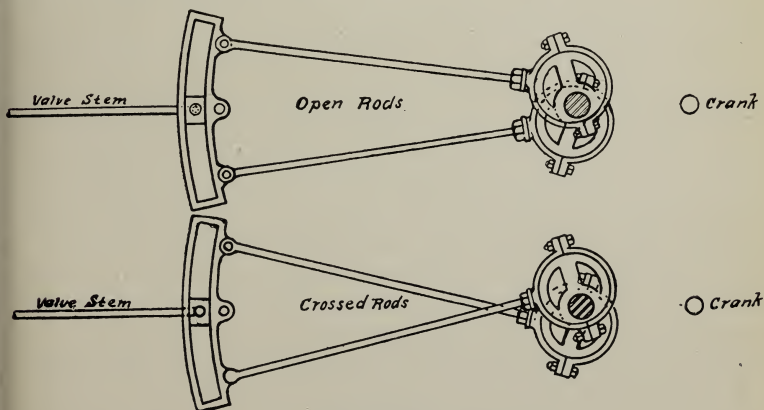

FIGURE 50.
eccentrics are pointing *toward the link*. If the rods are parallel when the eccentrics point toward the link the rods are said to be *open*. The two conditions are clearly represented in Figure 50, the upper diagram showing open rods and the lower crossed rods.
*Directions for Setting the Link Valve.*—Two accidents are liable to happen in the field, either the valve may slip on its stem or one or both of the eccentrics may slip on the shaft. To determine just what is the matter, first put the engine on dead center, according to the directions already given and note if the eccentrics appear to be placed as they appear in Figure 50. If they are so placed they are probably all right. The next thing to do is to remove the steam chest cover and observe the position of the valve. If it has slipped, the fact can generally be determined by the old grease marks on the valve stem. All that is necessary to do in this case is to throw the reverse lever over to one end of the quadrant and shift the valve until it shows the proper lead on the side nearest to the piston. If it is impossible to tell by the grease marks if the valve has slipped, look to the lead, then put the engine on the other center, leaving the reverse lever in the last notch of the quadrant in both cases, and see if the lead is the same; if not, the valve has slipped and it should be moved on its stem an amount equal to half of the error.